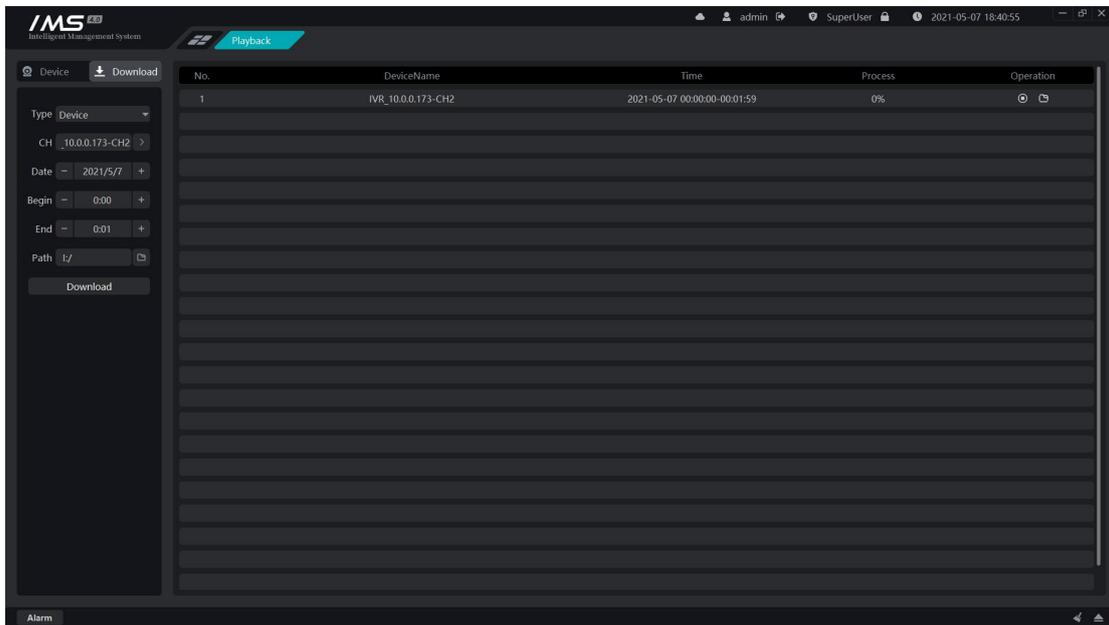

Figure 6-4
- 2 select the [channel] where the video needs to be downloaded, as shown in figure 6-4.